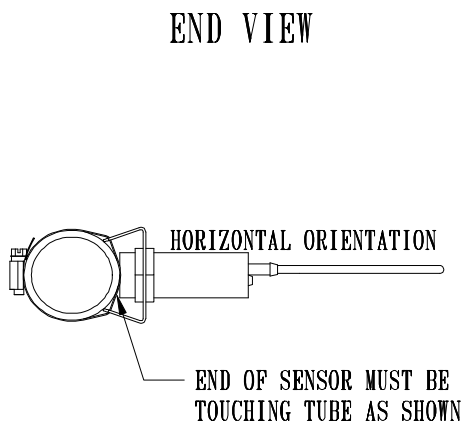

Figure 1
5. Position sensor and bracket around Chain Disk tube at a horizontal orientation as shown in **Figures 1 and 2** below.
7. Adjust sensor body using mounting nuts, until end of sensor is touching outside of Chain Disk tube as shown in **Figure 1** below.